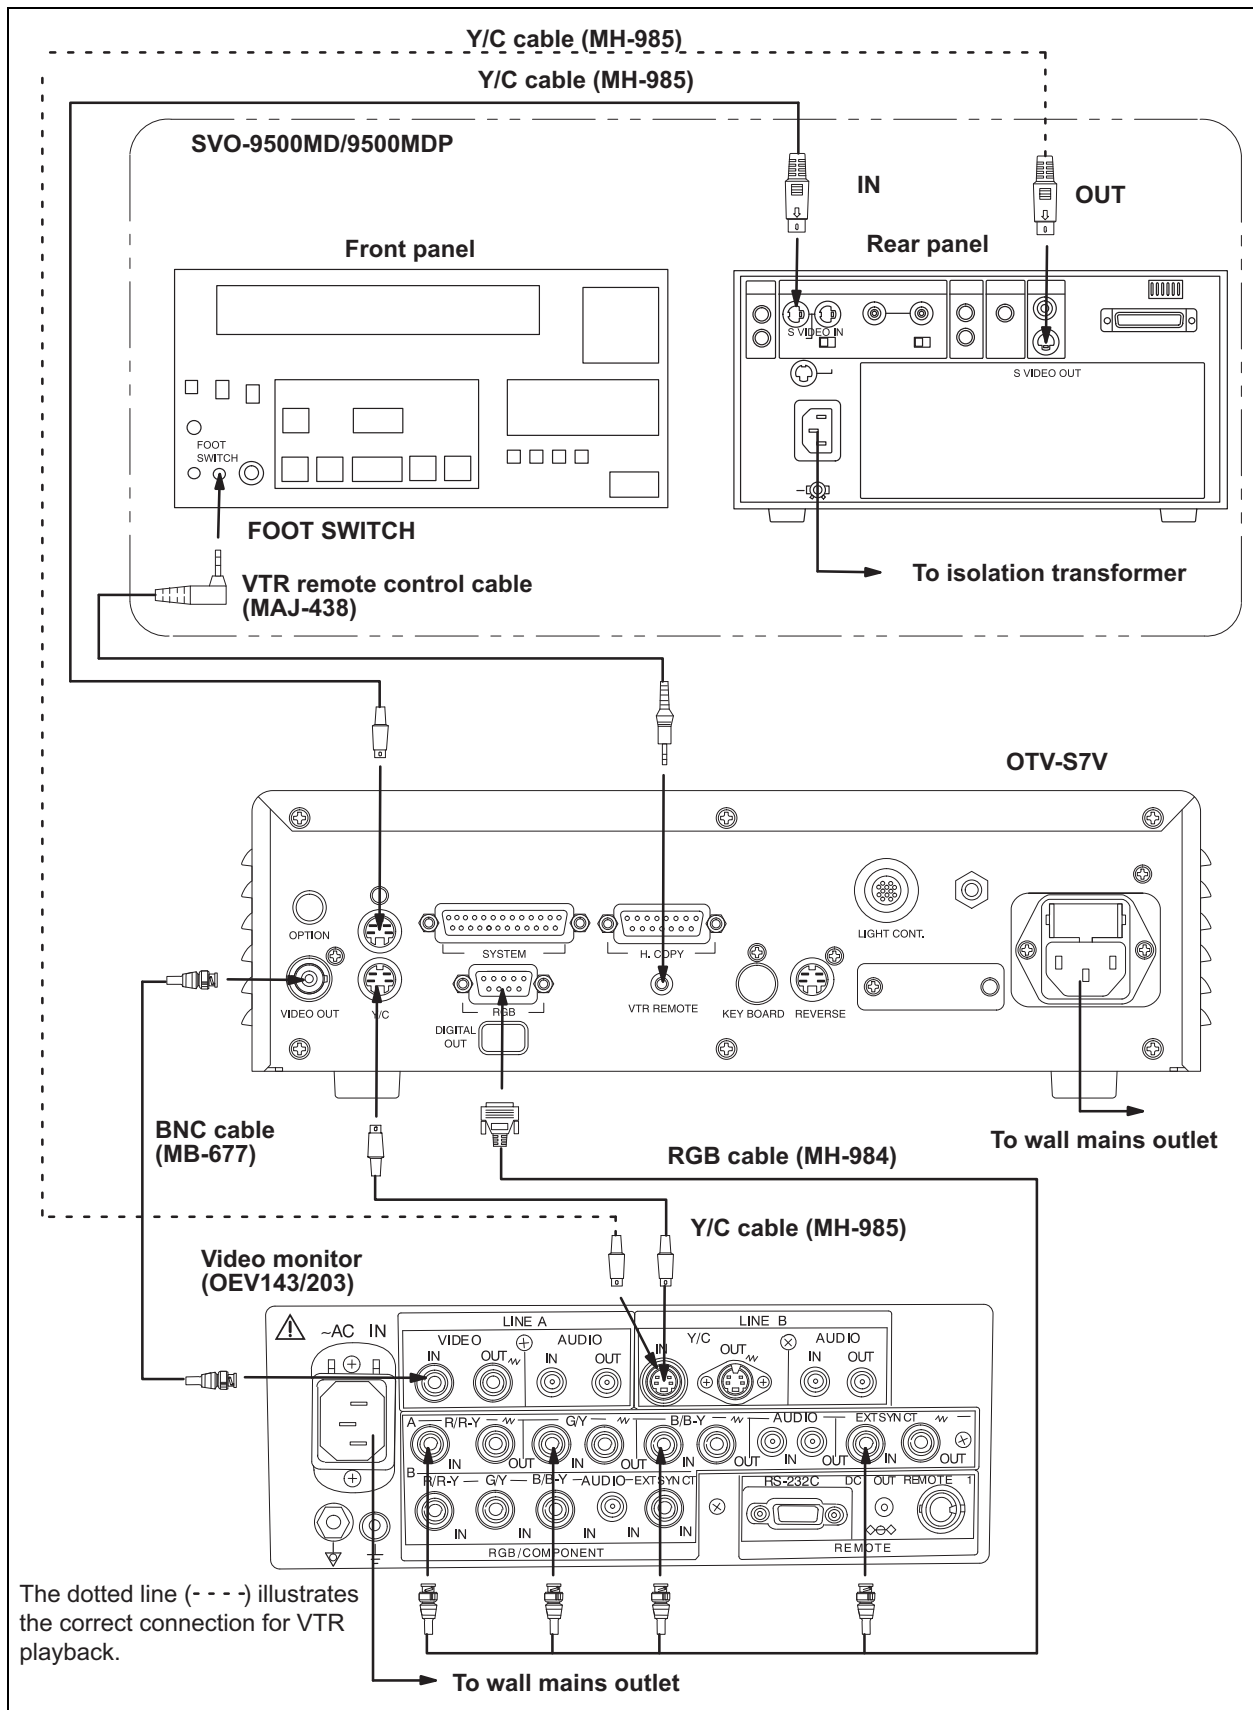

Figure 3.6
4. When using the OEV143/203 with the SVO-9500MD/9500MDP, connect the VTR as shown in Figure 3.6.